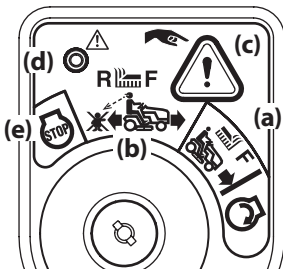

Figure 19
2. Turn the key from the NORMAL MOWING  (a) position to the REVERSE CAUTION MODE  (b) position of the ignition module. See Figure 19.
3. Press the REVERSE PUSH BUTTON  (c) at the top, right corner of the ignition module. The red indicator light (d) at the top, left corner of the ignition module will be ON while activated. See Figure 19.
5. Always look down and behind before and while backing to make sure no children are around. After resuming forward motion, return key to the NORMAL MOWING  (a) position. See Figure 19.
6. The REVERSE CAUTION MODE (b)  will remain activated until (see Figure 19):